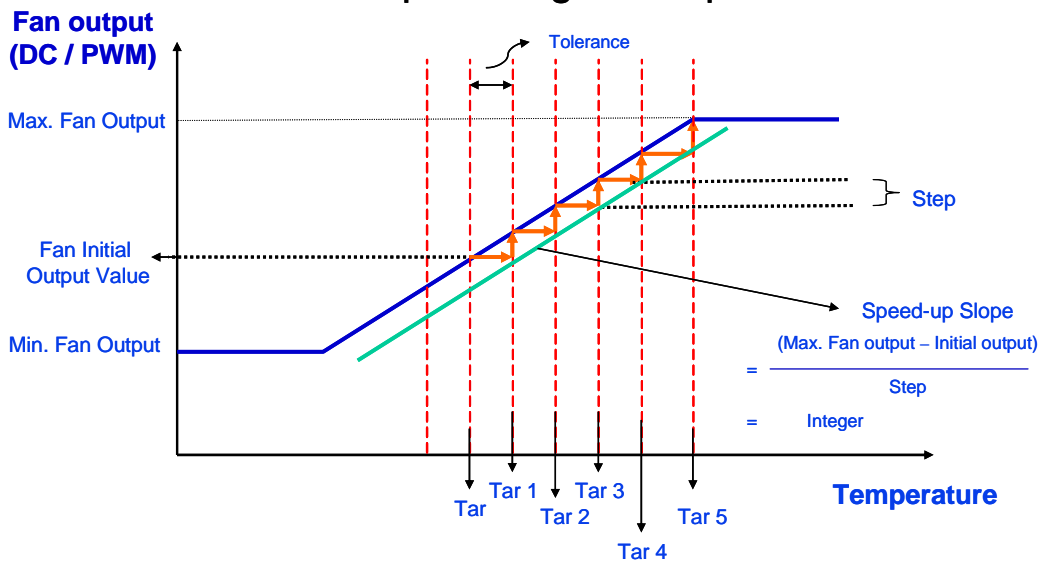

Figure 6.10
- (2) In the case that currently measured temperature goes beyond (Target Temperature + Temperature Tolerance), which is shown in Figure 6.10, fan speed jumps up to the next step. "Step" here refers to the value in the CPUFANOUT Output Value Select Register, Bank0 Index03h or Index61h.
- (3) Meanwhile, original Target Temperature dynamically shifts to (Target Temperature + Temperature Tolerance), and new Target Temperature, named Target Temperature 1, is formed. In other words, Target Temperature 1 equals original Target Temperature plus Temperature Tolerance.
- (4) If the currently measured temperature is within the (Target Temperature 1  $\pm$  Temperature Tolerance) then, the fan speed remains constant. Otherwise, fan speed jumps up to the next step again. Target Temperature then dynamically shifts to (Target Temperature 1 + Temperature Tolerance), and new Target Temperature again, named Target Temperature 2, is formed.
- (5) The fan-speed-up and Target Temperature comparison-then-shift process continue until currently measured temperature locates within (Target Temperature X  $\pm$  Temperature Tolerance), or fan output speed reaches its maximum speed.
- (6) **Please be noted that "Speed-up Slope" shown in the Figure 6.10 must be an integer.** In other words,  $\frac{Max.FanOutput - InitialOutput}{Steps}$  must be an integer; otherwise, it may lead to register overflow.